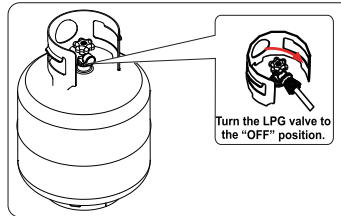

Fig 15
2. Turn off LPG bottle. (See fig 15)